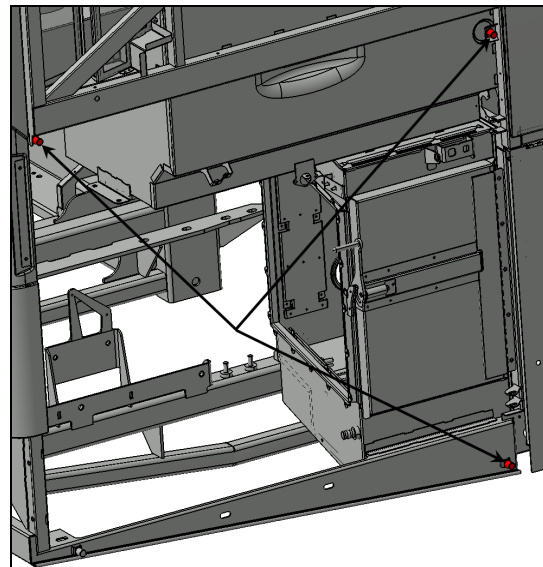
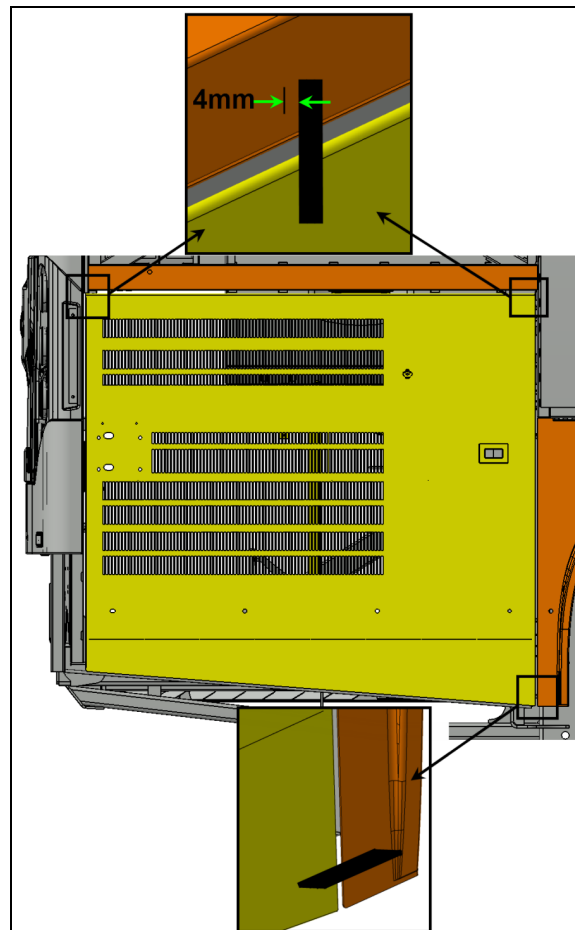

FIGURE 71
FIGURE 72
19. Screw in or out the two upper stoppers so that the upper part of the door exceeds the horizontal member by 5/32" to 3/16" (4mm to 5mm) (see FIGURE 71 & FIGURE 72).